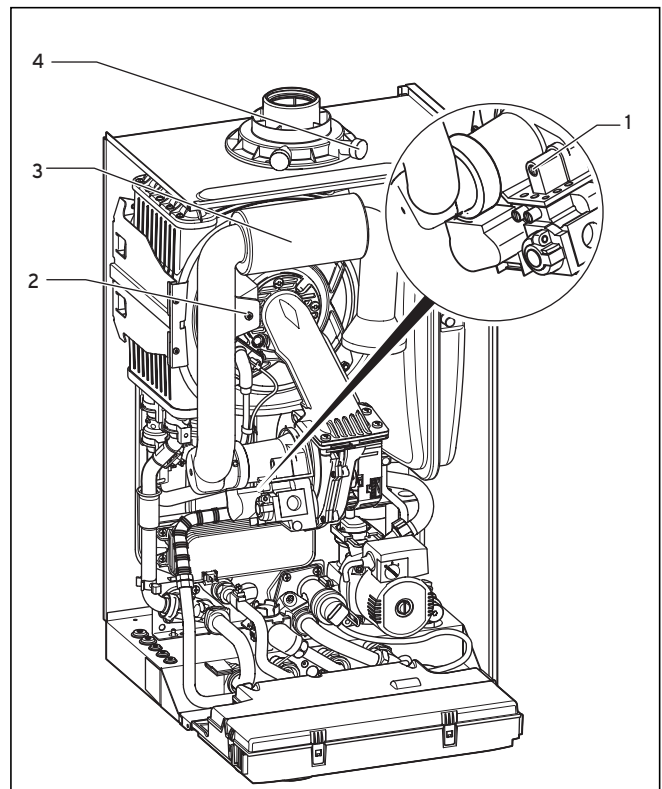

Fig. 7.1 Measuring the CO₂ concentration, specifying the air ratio (gas setting)
- unfasten the screw (Fig. 7.1, **2**) and
- fold the air intake pipe (Fig. 7.1, **3**) forwards through 90°. Do not remove the air intake pipe.
- Specify the required flue gas value if necessary (value with front casing of boiler removed, see Table 7.1) by turning the screw of the main throttle (Fig. 7.1, **1**).